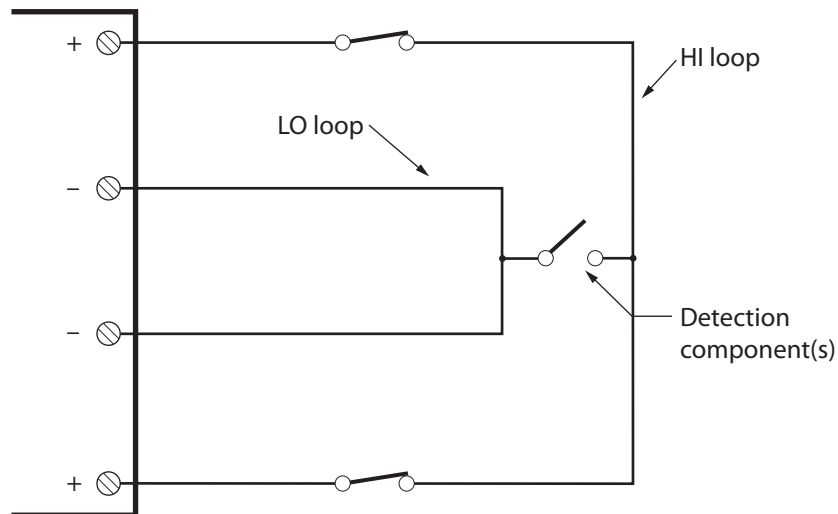

Figure 6—Four-wire loop in the secure condition
The four-wire loop is also called a *double-circuit* or *HI/LO* loop. Two separate loops are used to provide full supervision of the detection circuit (Figure 6). One of the loops is a positive (HI) loop and the other is a negative (LO) loop. In the secure condition there is no current flow between the two loops. Figure 6 shows a four-wire loop in the secure condition.